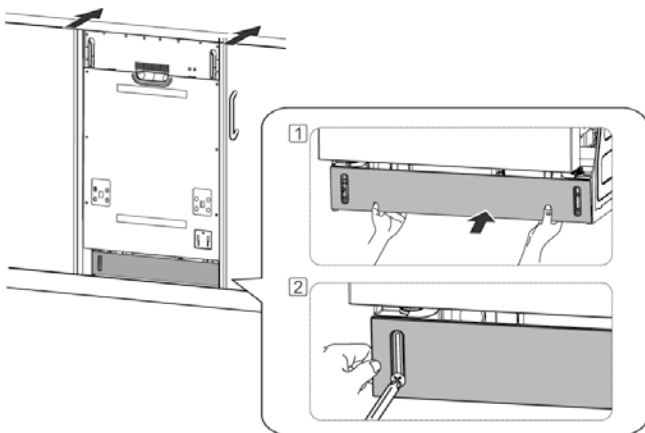

Figure 14
5. Confirm that the kick panel gasket is on the bottom of the kick panel. To install the kick panel with screw ST3.9*13, refer to the figure 14.